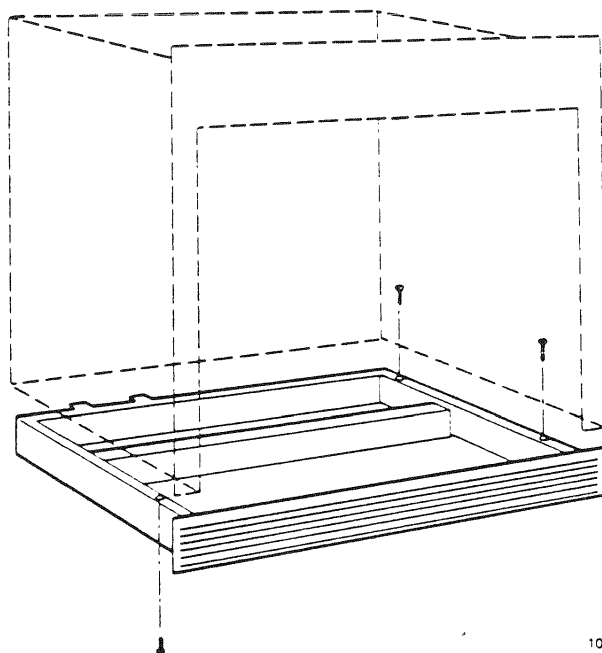

Figure A2
1. Remove the front door of the new module. Remove the three screws fastening the air chamber to the base of the module (Figure A2). Gently tip the module on its side and pull the interlock tabs on the air chamber free from the slots on the back of the module. Save the air chamber for possible future use.